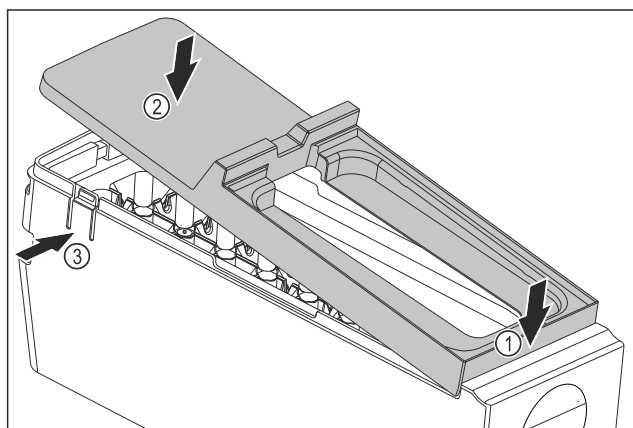

Fig. 81
- Installing the EasyTwist-Ice body cover: Place the cover on the front. Fig. 81 (1)
- Lower the cover at the rear. Fig. 81 (2)
- The cover locks into both tabs Fig. 81 (3) audibly.